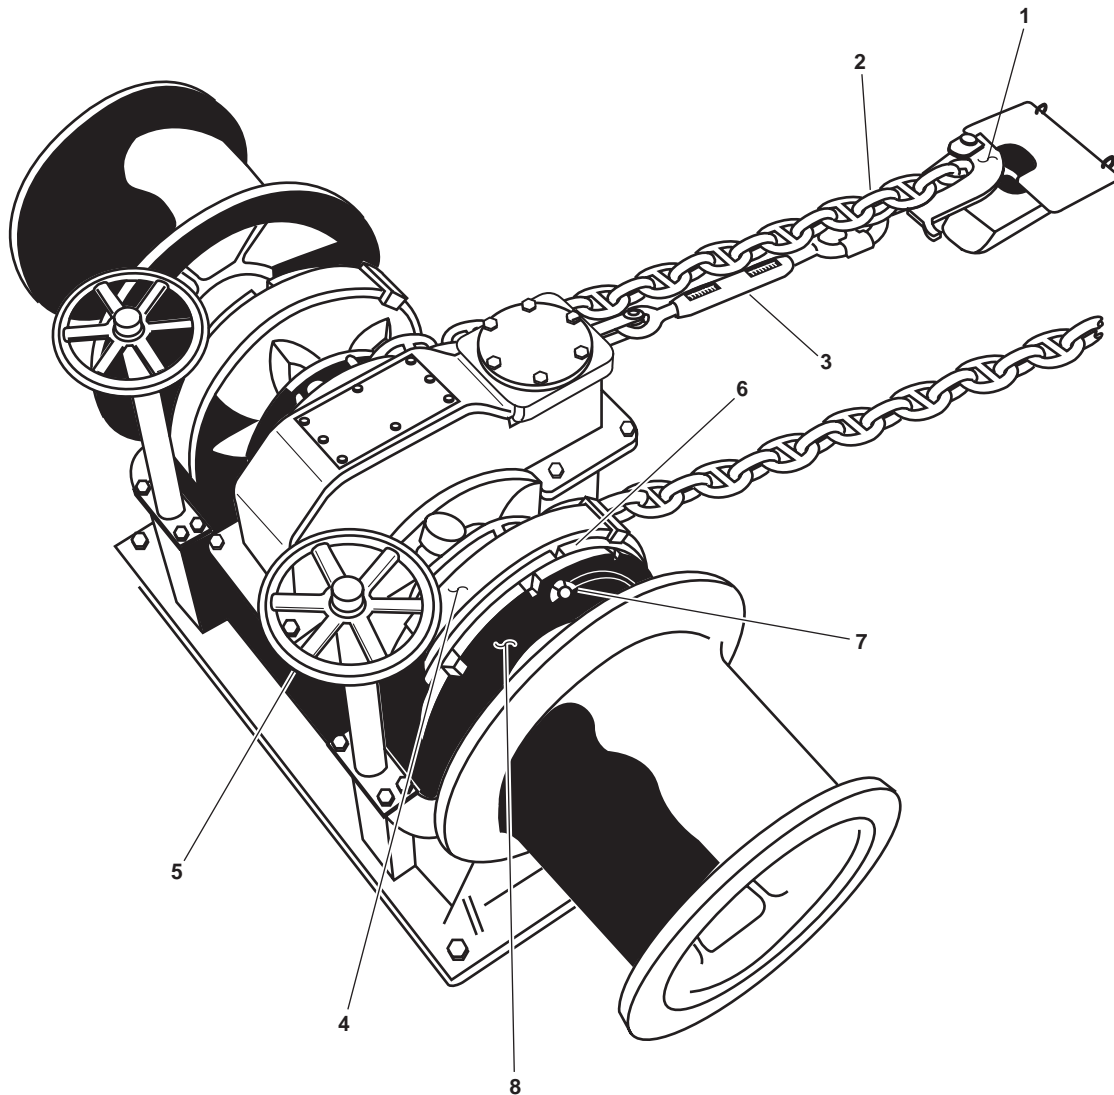
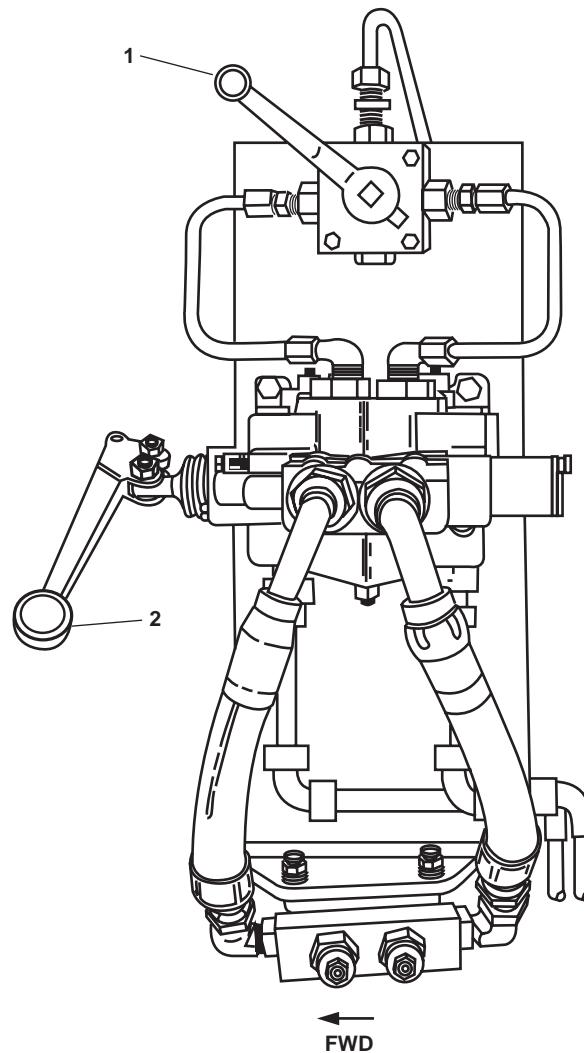

Figure 13. Anchor Windlass
Figure 14. Anchor Windlass Control Station
1. Verify that the pelican hooks (figure 13, item 1) are secured to the anchor chain (figure 13, item 2) and that the pelican hook turnbuckles (figure 13, item 3) are tight.
2. Set both anchor windlass brakes (figure 13, item 4) by turning the anchor windlass brake handwheels (figure 13, item 5).
2. Engage the dog clutch (figure 13, item 6) by performing the following steps:
- b. Loosen both wing nuts (figure 13, item 7) on the face of shifter ring (figure 13, item 8).
- c. Verify that the anchor windlass brake (figure 13, item 4) is set by rotating the anchor windlass brake handwheel (figure 13, item 5) fully clockwise.
- d. Verify that the pelican hooks (figure 13, item 1) are secured to the anchor chain (figure 13, item 2) and that the pelican hook turnbuckles (figure 13, item 3) are tight.
- e. Set the two-speed control lever (figure 14, item 1) to LOW SPEED.
- f. Operate the RAISE-LOWER control (figure 14, item 2) until the slots in the dog clutch (figure 13, item 6) are aligned with the slots in the shifter ring (figure 13, item 8).
- g. Insert the dog clutch tool in the nearest slot that is aligned with the dog clutch (figure 13, item 6) and the shifter ring (figure 13, item 8).
- h. Push the dog clutch tool forward to engage the dog clutch (figure 13, item 6).
- i. Tighten both wing nuts (figure 13, item 7) on the face of the shifter ring (figure 13, item 8).
3. Select the desired speed by setting the two-speed control lever (figure 14, item 1) to the desired speed.
4. Remove the pelican hook (figure 13, item 1) from the anchor chain (figure 13, item 2) by loosening the pelican hook turnbuckles (figure 13, item 3).
5. Release the anchor windlass brake(s) (figure 13, item 4) by turning the anchor windlass brake handwheels (figure 13, item 5).
6. To raise or lower the anchor chain (figure 13, item 2), move the RAISE-LOWER control (figure 14, item 2) to the desired position.
2. Set both anchor windlass brakes (figure 13, item 4) by turning the anchor windlass brake handwheels (figure 13, item 5) fully clockwise.
3. Disengage the dog clutch (figure 13, item 6) by performing the following steps:
- h. Pull the dog clutch tool aft to disengage the dog clutch (figure 13, item 6).
5. Slowly release the anchor windlass brake(s) (figure 13, item 4) by turning the anchor windlass brake handwheels (figure 13, item 5) counterclockwise.
6. When the desired amount of anchor chain (figure 13, item 2) has been paid out, set the anchor windlass brake(s) (figure 13, item 4) by turning the anchor windlass brake handwheel(s) (figure 13, item 5) fully clockwise.
4. Select the desired speed by setting the two-speed control lever (figure 14, item 1) to the desired speed.
5. Haul in (raise) or pay out (lower) by moving the RAISE-LOWER control (figure 14, item 2) to the desired position.
3. Install the pelican hooks (figure 13, item 1) on the anchor chain (figure 13, item 2) and tighten the pelican hook turnbuckles (figure 13, item 3).